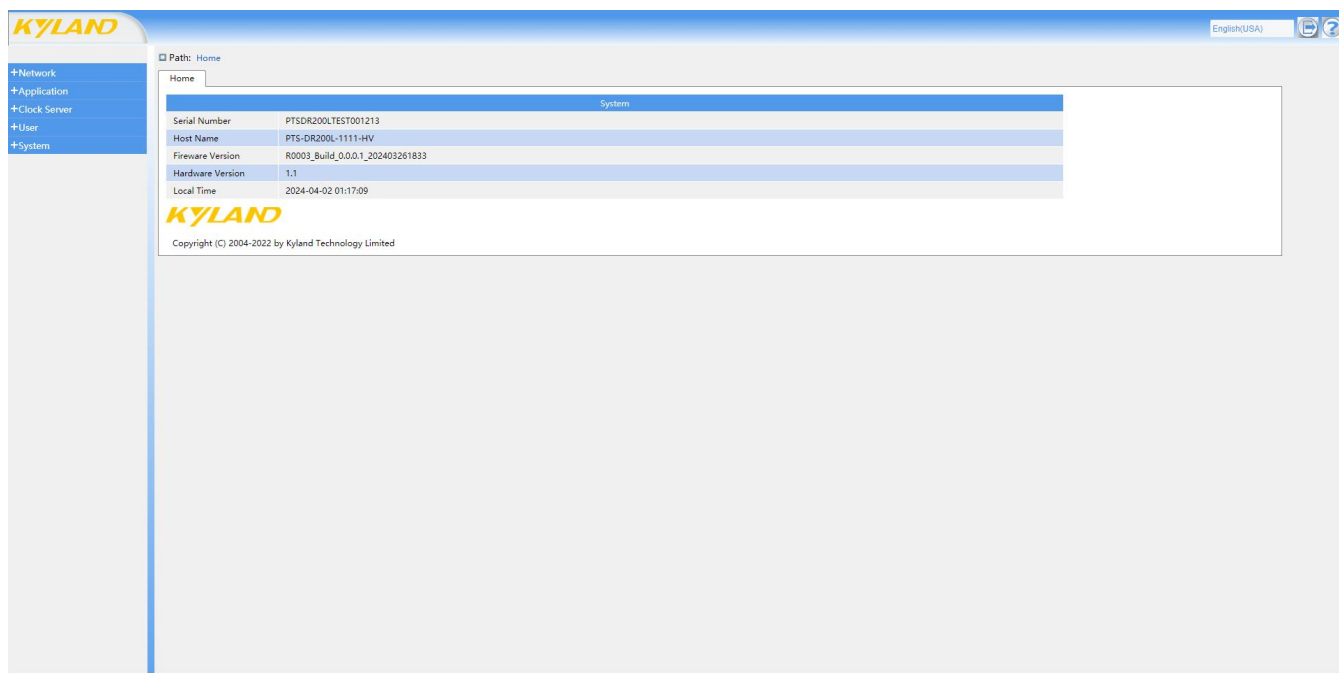

Figure 3 Web interface
2. At this time, successfully log in to the device page, and the configuration navigation tree is on the left, as shown in Figure 3;
Click the menu in the navigation tree to expand/close the menu item. Click 主页 to link to the Web shown in Figure 3 the first interface, that is, clicking the icon under any circumstances can switch to the first interface of the Web; Click 简体中文 on the language display bar to switch the system language; Click  to exit the Web operation interface; Click  to enter Kyland Technology official website.